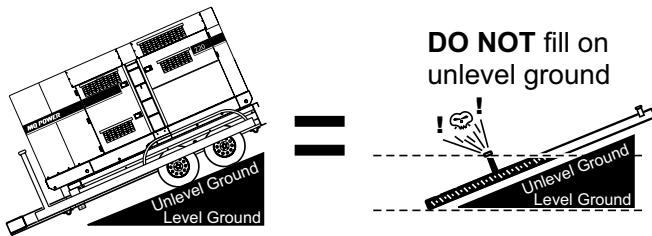

Figure 29. Only Fill on Level Ground
3. **Level Tanks** — Make sure fuel cells are level with the ground. Failure to do so will cause fuel to spill from the tank before reaching full capacity (Figure 29).